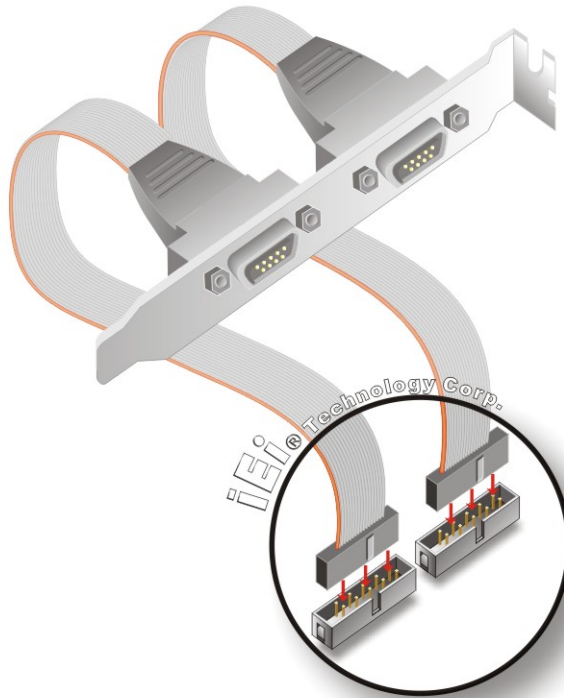

Figure 4-7: Dual RS-232 Cable Installation
- Step 2:** **Insert the cable connectors.** Insert one connector into each serial port box headers. See **Figure 4-7.** A key on the front of the cable connectors ensures the connector can only be installed in one direction.